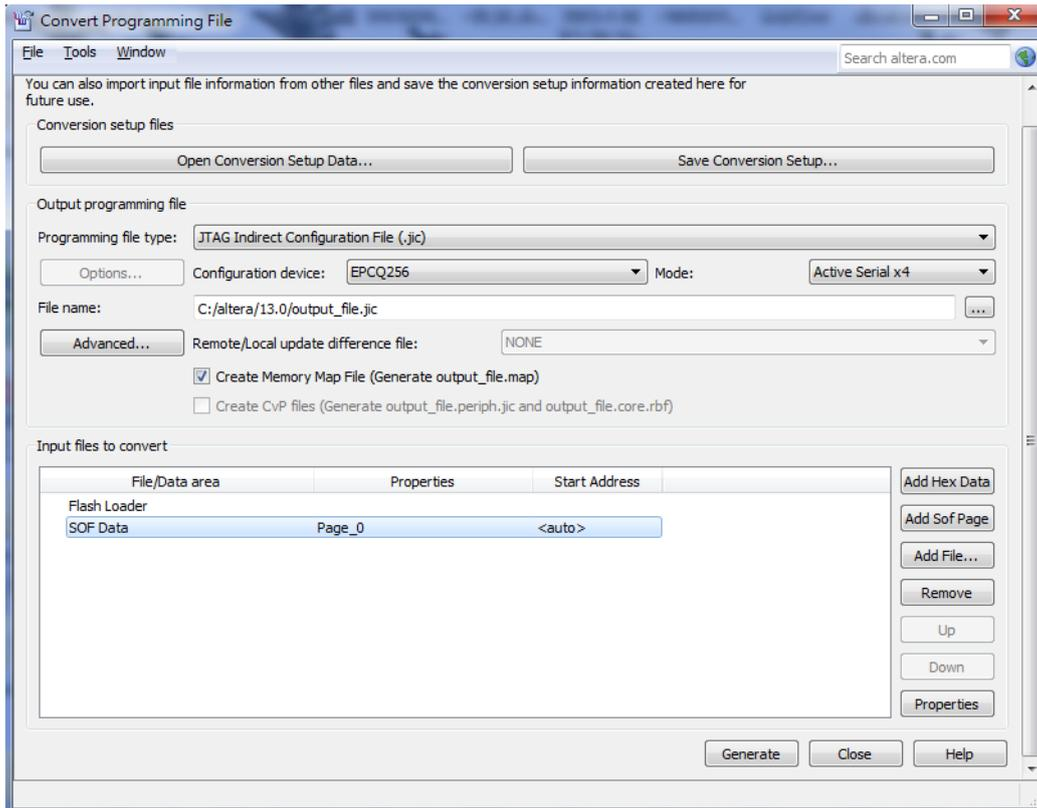

Figure 6-2. Convert Programming Files Dialog Box
6. Highlight the SOF data in the Input files to convert section. See **Figure 6-2**.